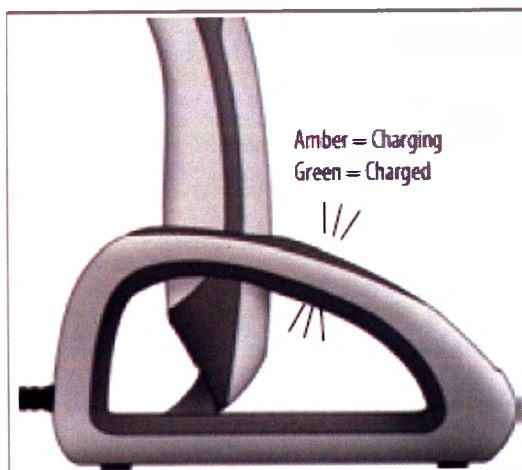

Figure 5 – Charging Indicator lighting
2. Plug the power supply into the Charging Dock. The socket is located at the back of the Charging Dock (Figure 5).
3. Insert the Demi Ultra unit into the Charging Dock with the controls facing the radiometer. When charging, the unit's indicator lights turn off and the charging dock charging indicator lights turn on. These are on the upper and lower surface of the dock's "bridge" (Figure 5). Amber light indicates the unit is charging. Green indicates the unit is fully charged.